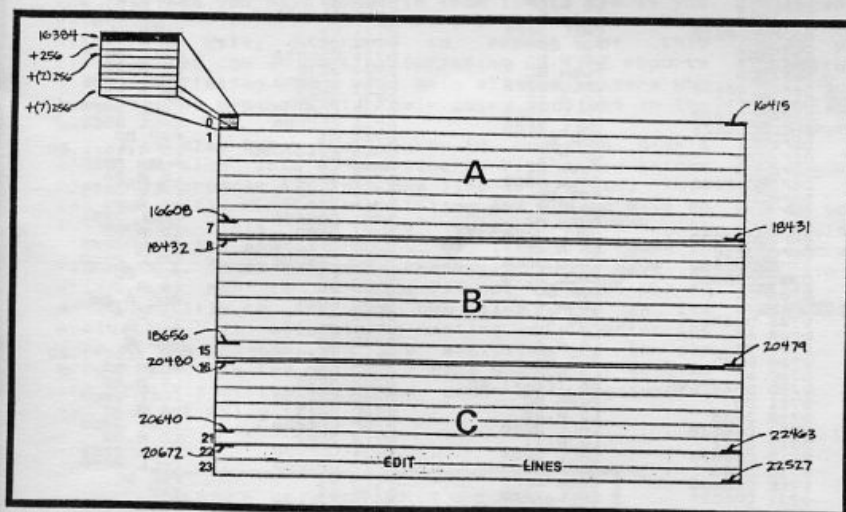

Figure 1: 2068 Display File Map
Lets start our discussion on 2068 windows by discovering that the 2068 treats the standard screen as three windows already! What? That's right, Uncle Clive's little wonder addresses the screen in the display file as three separate sections. I've mapped these in Figure 1 as A,B,C (the last two lines of C being the edit lines). Now if your having trouble visualizing this, let's experiment for a moment. Type in a line like: 10 FOR t = 16384 TO 22527 : POKE t, 255 : NEXT t. Now RUN it and watch the display carefully. The program is directly poking the code for eight black pixels (255) into each consecutive address of the display file. Notice that it fills all of the window A before starting window B and so on. In the old ZX81, the display file was much simpler. With the 2068 we will have to work around these set windows to produce our own custom sizes.